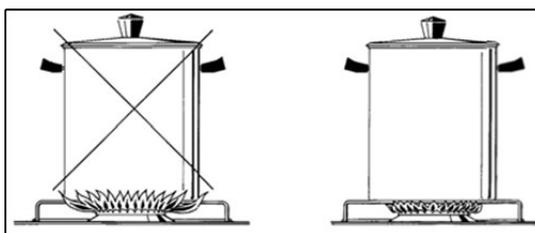

Fig. 20
- Use suitably sized pots for each burner (see tab. 4 and Fig. 20).